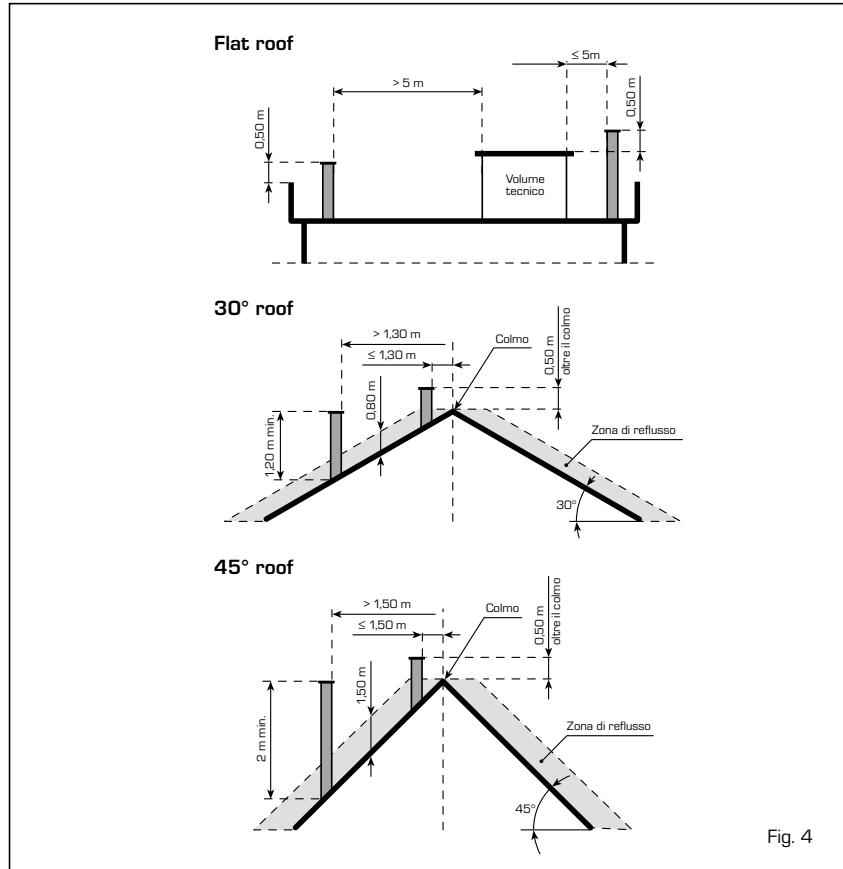

Fig. 4
- Be equipped with a chimney-pot at the top, which must be outside the so-called back-flow zone, so as to prevent the formation of back-flow, which prevents free discharge of the products of combustion into the atmosphere. Therefore, conform to the minimum heights indicated in fig. 4.